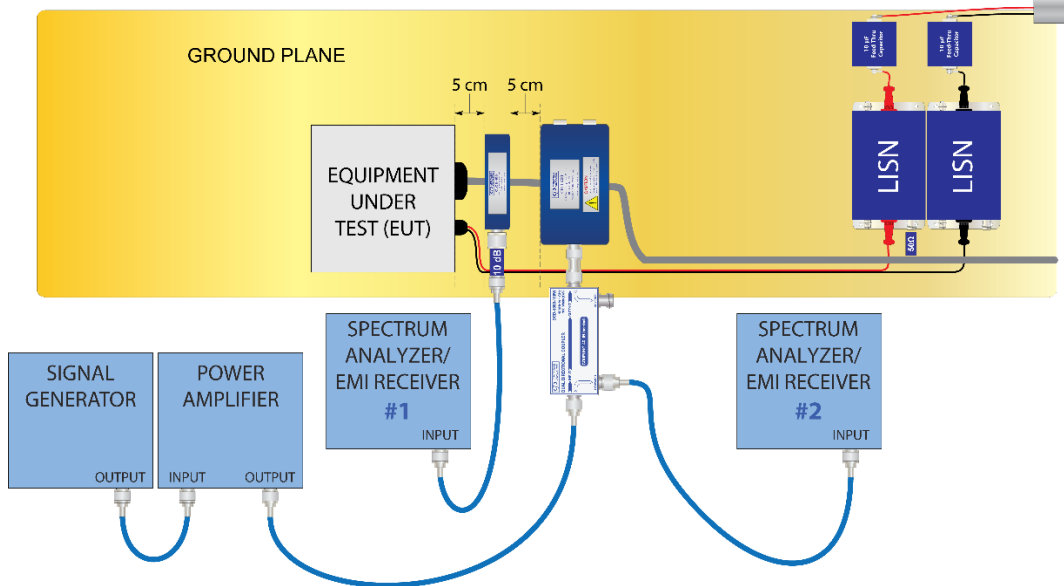

Figure 19 –Example Test Setup Diagram for EUT Testing
- 1) Set up the equipment as described in the applicable standard or approved test plan. An example setup diagram is given in Figure 19. Refer to RTCA DO-160 or the applicable test plan to determine the EUT cables to be tested.